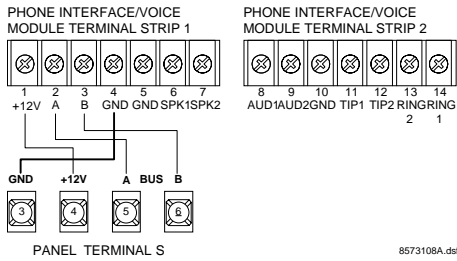

FIGURE 2-16. Wiring the Power and Bus Terminals.
1. Connect the module to the panel power and bus terminals as shown in Figure 2-16.